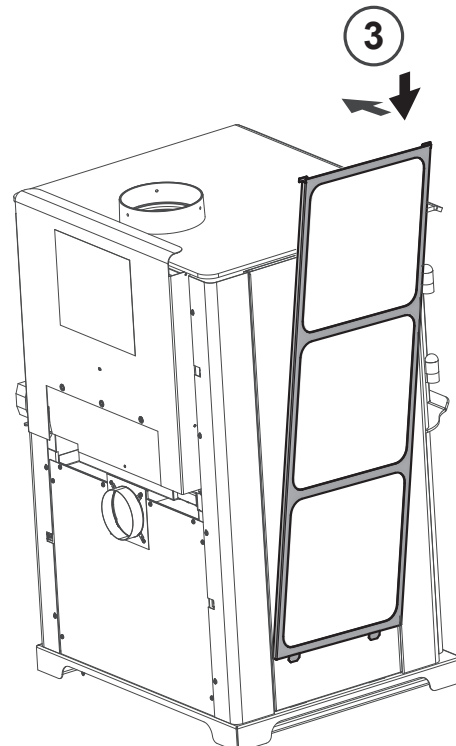

Figure 16.5
3. Reattach tile frame **Figure 16.5**.